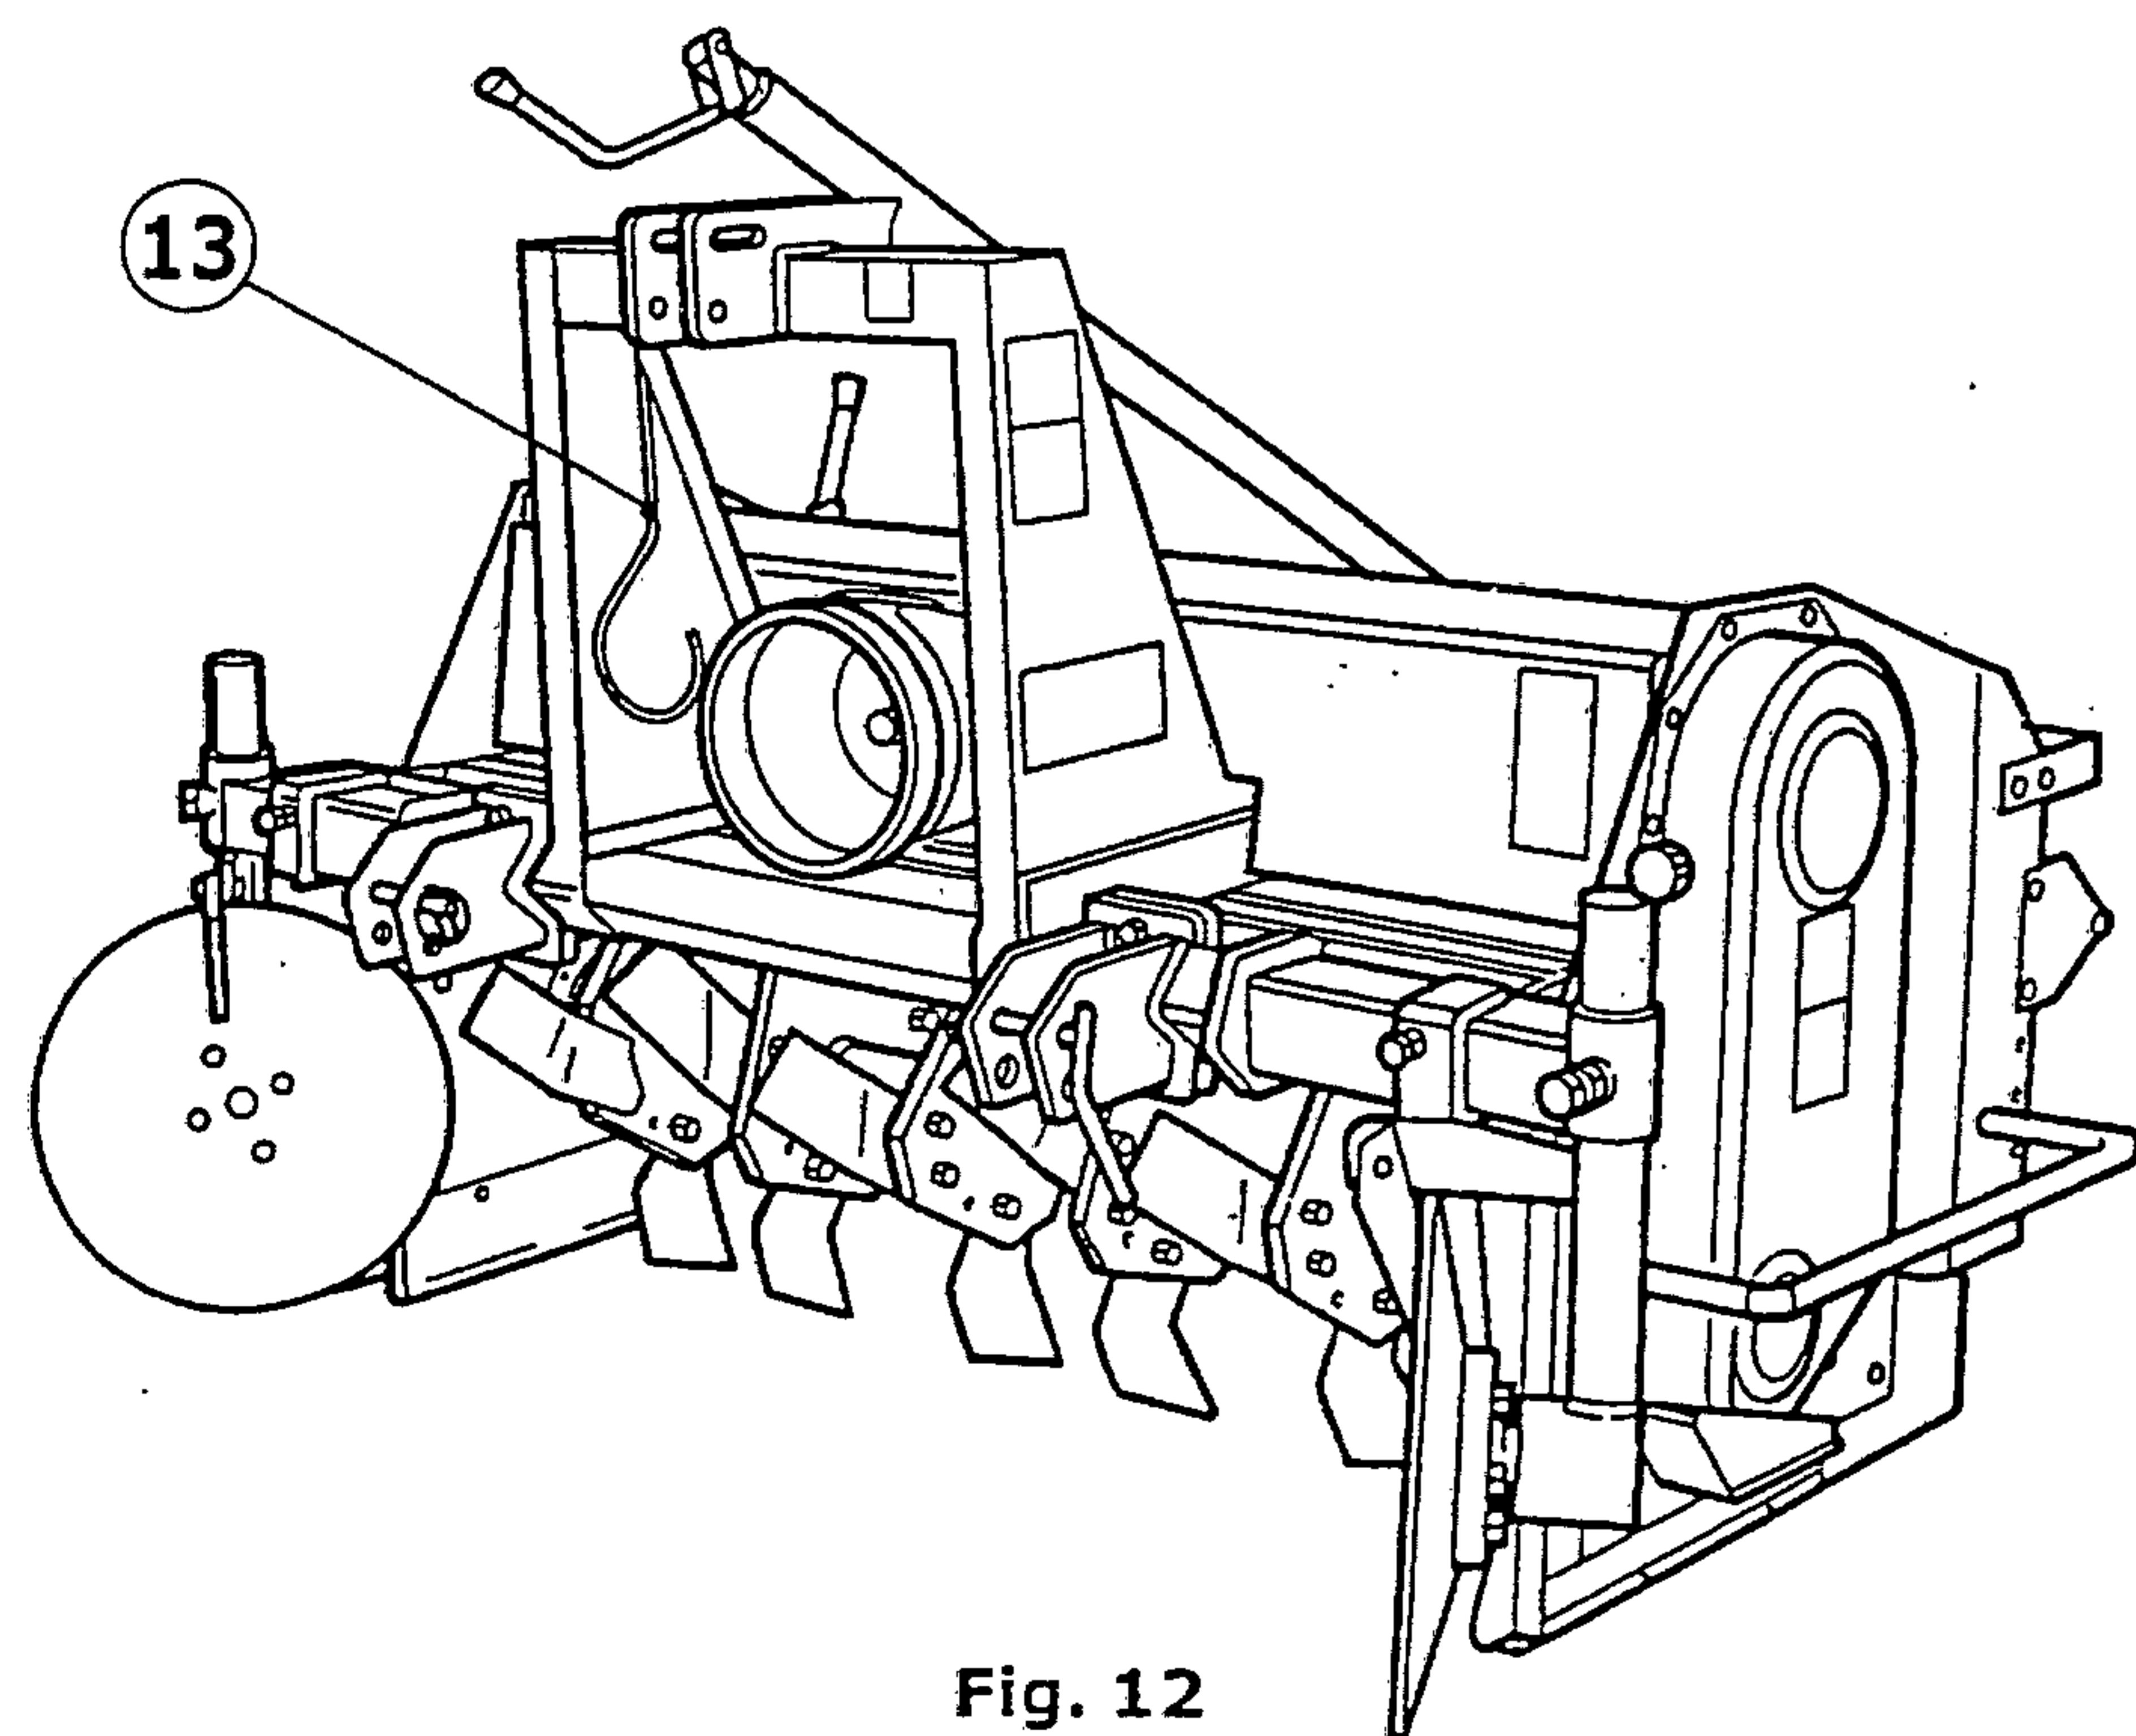

Fig. 12
- 3) Remove the cardan shaft from the tractor end and place it on the bracket (13 - Fig. 12).